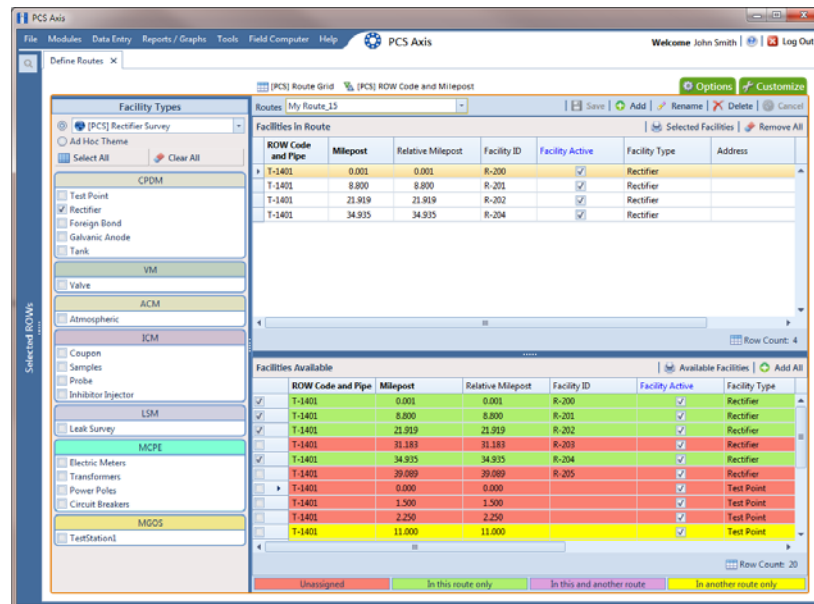

Figure 7-10. Define Routes
- 5 Complete the following steps in the *Facilities Available* grid (Figure 7-10):